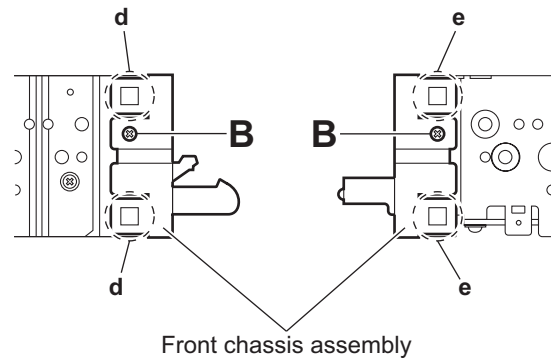

Fig.4
- Remove the two screws **B** on the both sides of the main body. (See Fig.4)
- Release the joints **d** and joints **e** on the both sides of the main body, then remove the front chassis assembly toward the front. (See Fig.4)